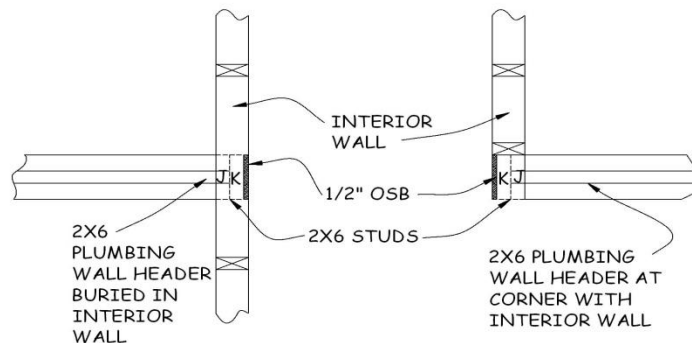

Figure 3-8. Plumbing Wall Configuration.
- b. A 2x6 sliding closet wall intersecting a 2x4 wall at 90°: The intersection of the closet wall framing with the 2x4 interior wall requires a special header configuration (see Figure 3-8). If the two walls create an “L”, butt the side of the 2x6 wall against the end of the 2x4 wall (this makes the 2x6 wall the “long” or overlapping wall). If they create a “T” (where the 2x6 wall butts up to the 2x4 wall), extend the closet header into the 2x4 wall. In both cases, lay out the Jack stud flush with the closet side of the 2x4 wall. Adjoining that will be the King stud and $\frac{1}{2}$ ” of OSB, creating a 3 $\frac{1}{2}$ ”-wide block equal in width to the 2x4 interior wall.